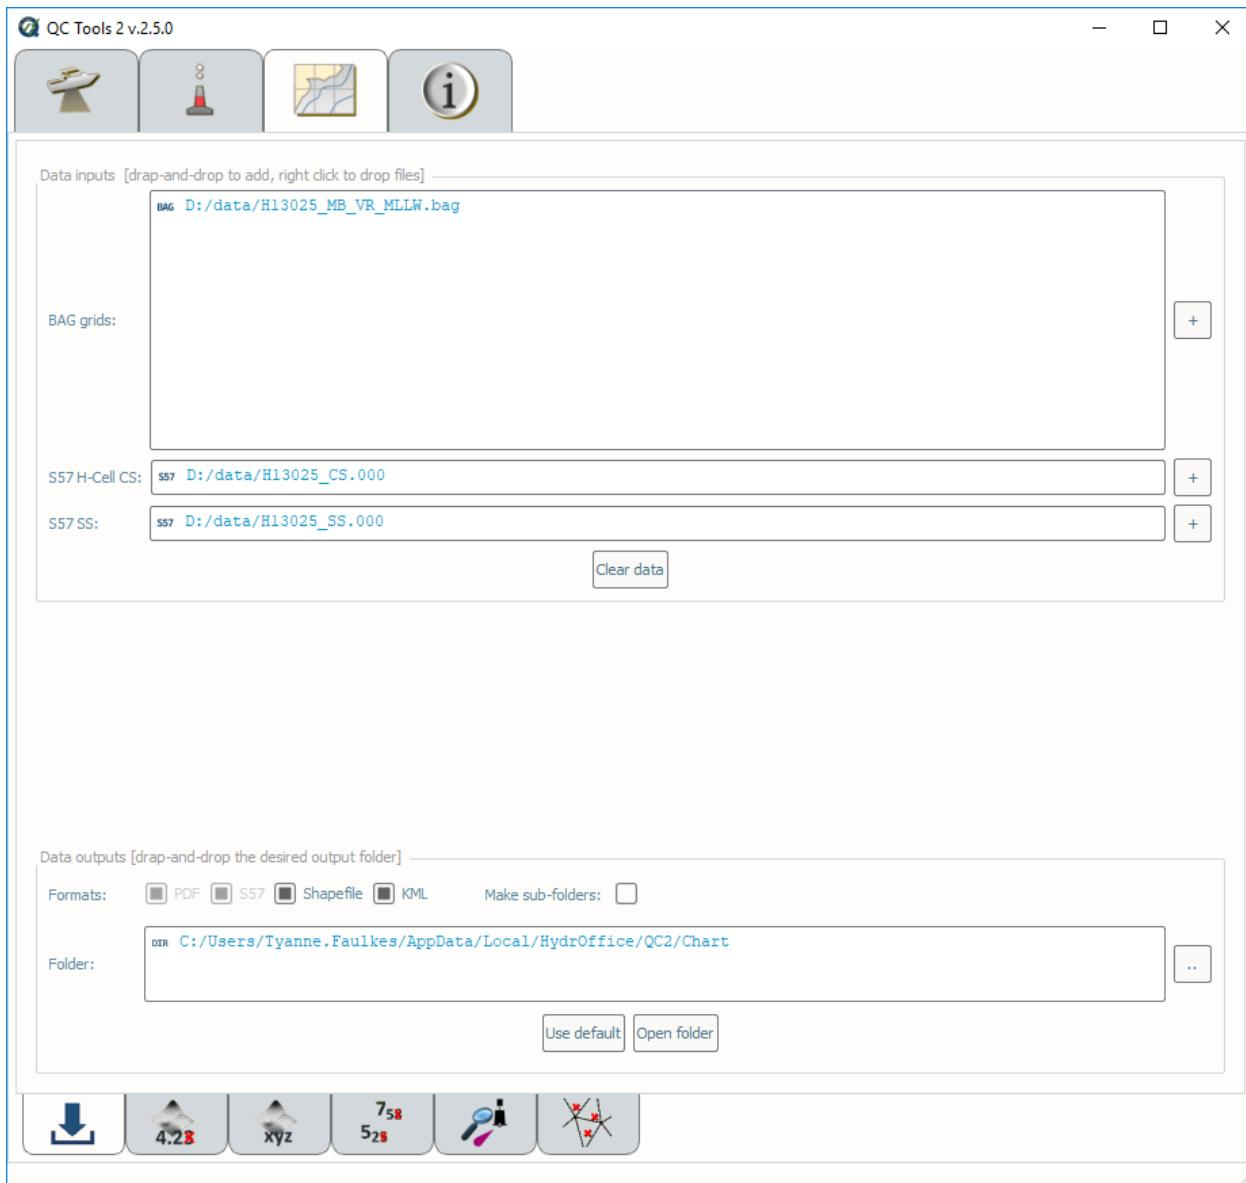

Fig. 2.62: Chart review tab.
- With the addition of a grid, feature file, and survey sounding selections, the **Grid truncate**, **Grid xyz**, **S57 truncate**, **Triangle Rule**, and/or **Scan Features** tabs on the bottom of the interface will become available (Fig. 2.62).